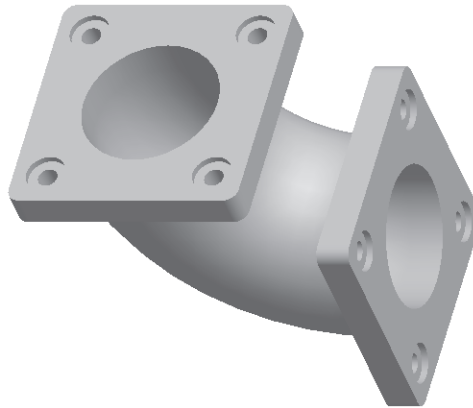

Figure 8-97 The default trimetric view of the complete model
- f. Pattern the counterbore holes, refer to Figure 8-97.
Similarly, create pattern of the hole on the other extruded feature also. The default trimetric view of the complete model is shown in Figure 8-97.